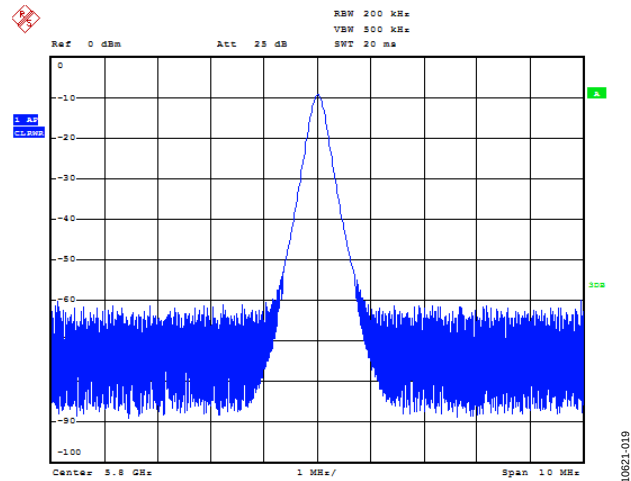
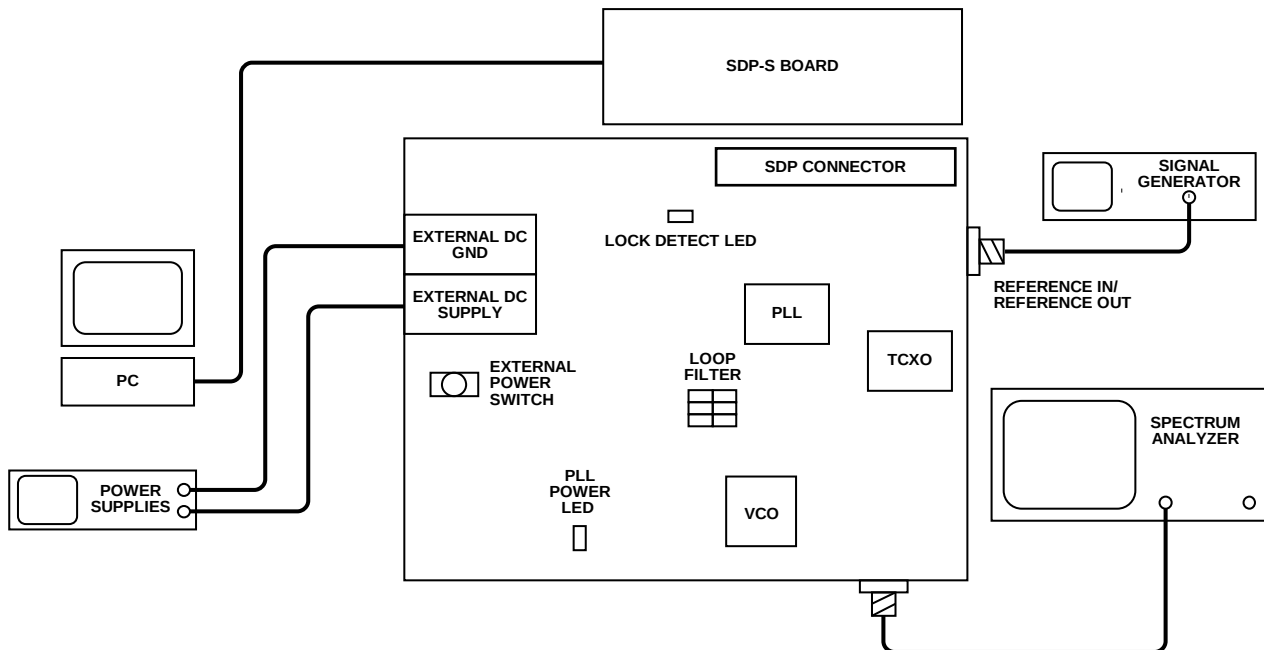

Figure 19. Spectrum Analyzer Display
Figure 20. Typical Evaluation Setup
9. In the **Main Controls** tab in the main window of the evaluation board software, set the VCO center frequency in the **RF VCO Output Frequency** text box (the example in Figure 19 uses a 5800 MHz VCO). Set the **PFD Frequency** text box to 10 MHz, and program the **Reference Frequency** value to equal 10 MHz. The current listed in the **Charge Pump Setting** text box should equal 0.31 mA. See Figure 20 for the suggested setup.
10. Measure the output spectrum. Figure 19 shows a 5800 MHz output.